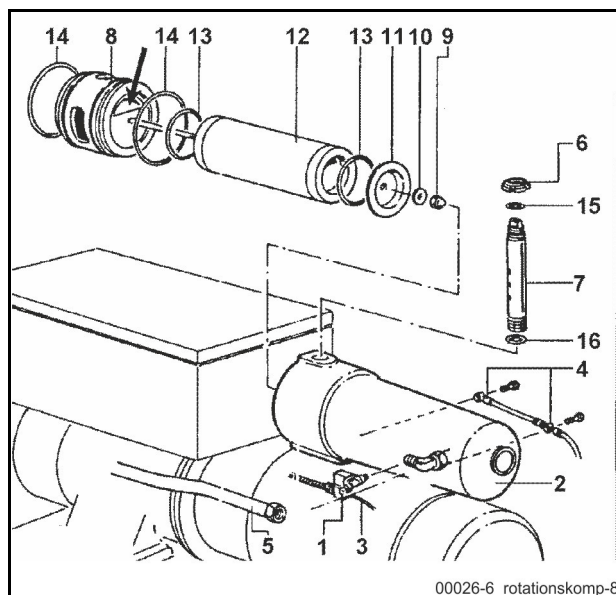

Fig. 220 Oil separator cartridge
- Disconnect the plug for the solenoid valve (1) on the separator housing (2) (Fig. 220) and loosen the air hose (3).
- Loosen the oil return valve (4) as described above.
- Remove the compressed air tube (5) from the separator housing.
- Remove the radial groove nut (6).